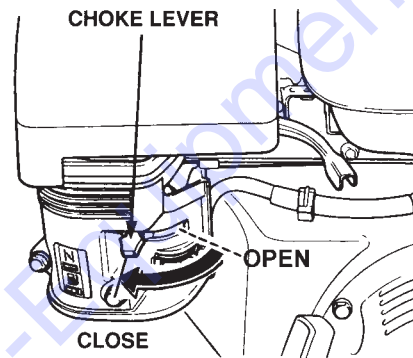

Figure 10. Engine Choke Lever
3. Place the ***choke lever*** (Figure 10) in the "**CLOSED**" position if starting a ***cold*** engine.